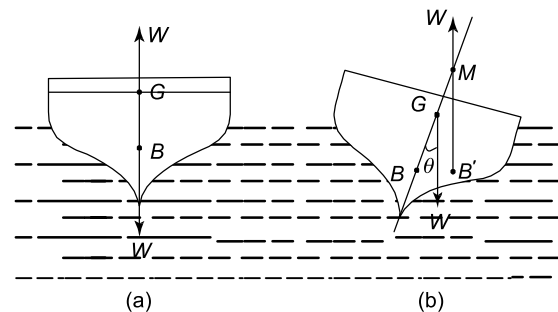

Figure 23.13
For most ships and boats the centre of buoyancy (B) of the vessel is usually below the vessels' centre of gravity (G), as shown in Figure 23.13(a). When this vessel is subjected to a small angle of keel (θ), as shown in Figure 23.13(b), the centre of buoyancy moves to the position B' ,